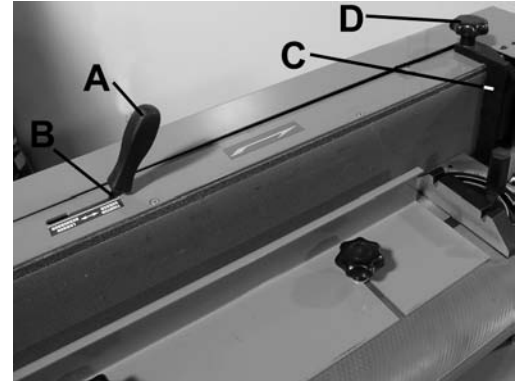

FIGURE 5
- 1) Place tension handle (A-Fig.5) over the tension lever (B-Fig.5).
- 1) Mount the workstop (C-Fig.5) to the right side of the belt frame using the lock knob (D-Fig.5).